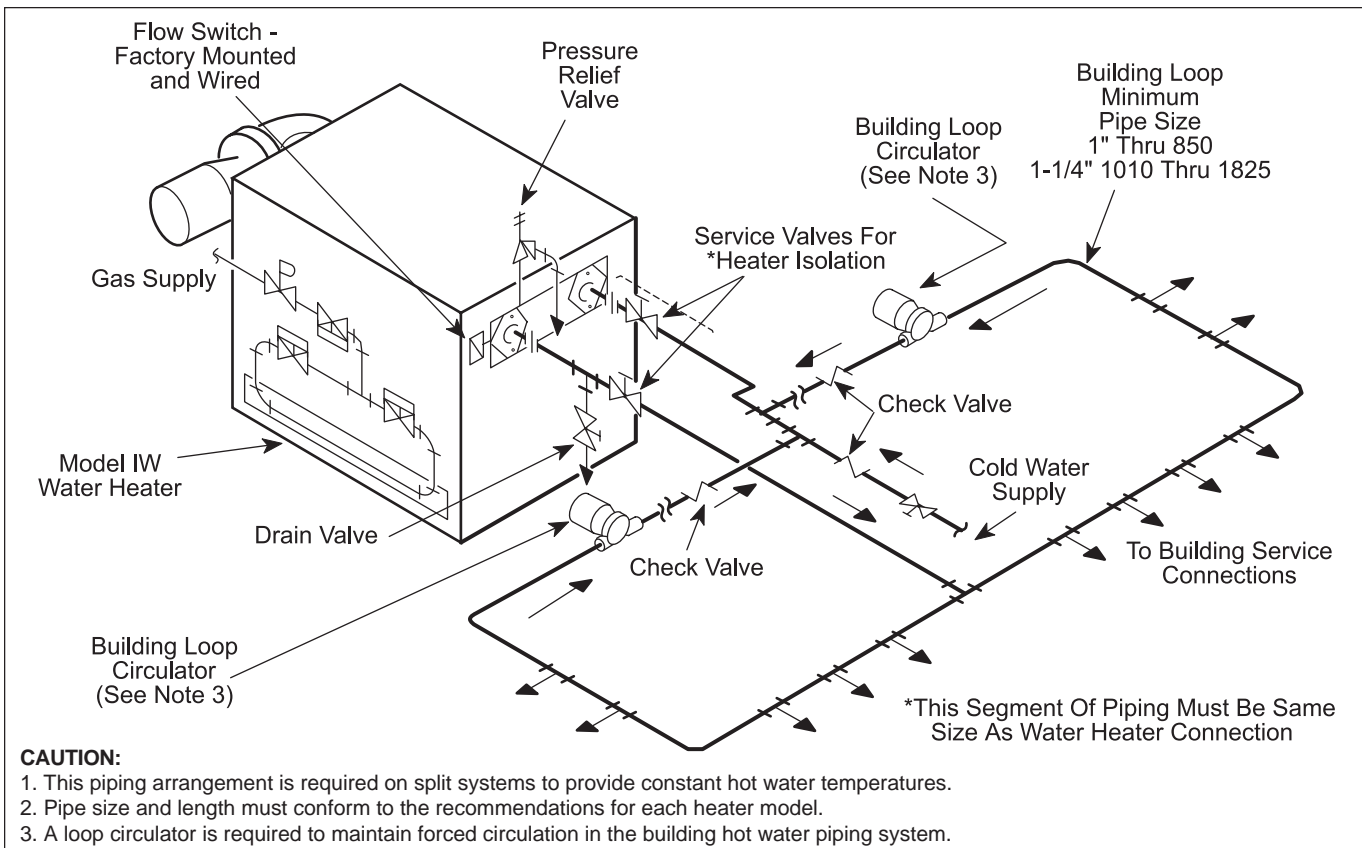

Figure 13. Split System Piping Diagram, Model IW.
2. The Model **IW** heater is designed for use in a system without a hot water storage tank. The hot water supply line to usage point must have a return leg to the heater (see Figure 13, 14 and 15). A built-in circulating pump and internal heat exchanger bypass maintains the heater in a standby condition. It also maintains the temperature at the controller setting of the water in the entire building circulating loop whether or not there is any use of hot water.